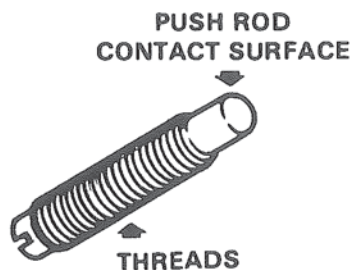

Figure 6. Adjusting Screw Inspection Points.
1. Inspect adjusting screw for wear or damage. Figure 6. Replace if defective.